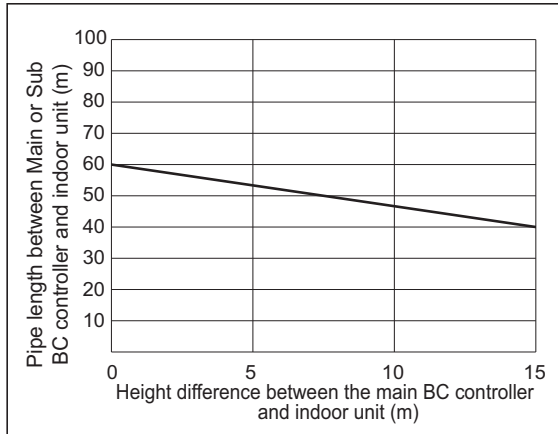

Fig. 2
- *2. Details refer to Fig. 2.
- *9. When the piping length or the vertical separation exceeds the limit specified in Fig. 2, connect a sub BC to the system. The restriction for a system with a sub BC connection is shown in Fig. 3. When a given system configuration falls within the shaded area in Fig. 3, increase the size of the high-pressure pipe and the liquid pipe between the main BC and sub BC by one size. When using P32, P40, P50, P100, or P125 model of indoor units, increase the size of the liquid branch pipe between the sub BC and indoor unit by one size. When using indoor models P140 or larger, the restrictions shown in Fig. 2 cannot be exceeded.
*9. When the piping length or the vertical separation exceeds the limit specified in Fig. 2, connect a sub BC to the system.
When using indoor models P140 or larger, the restrictions shown in Fig. 2 cannot be exceeded.